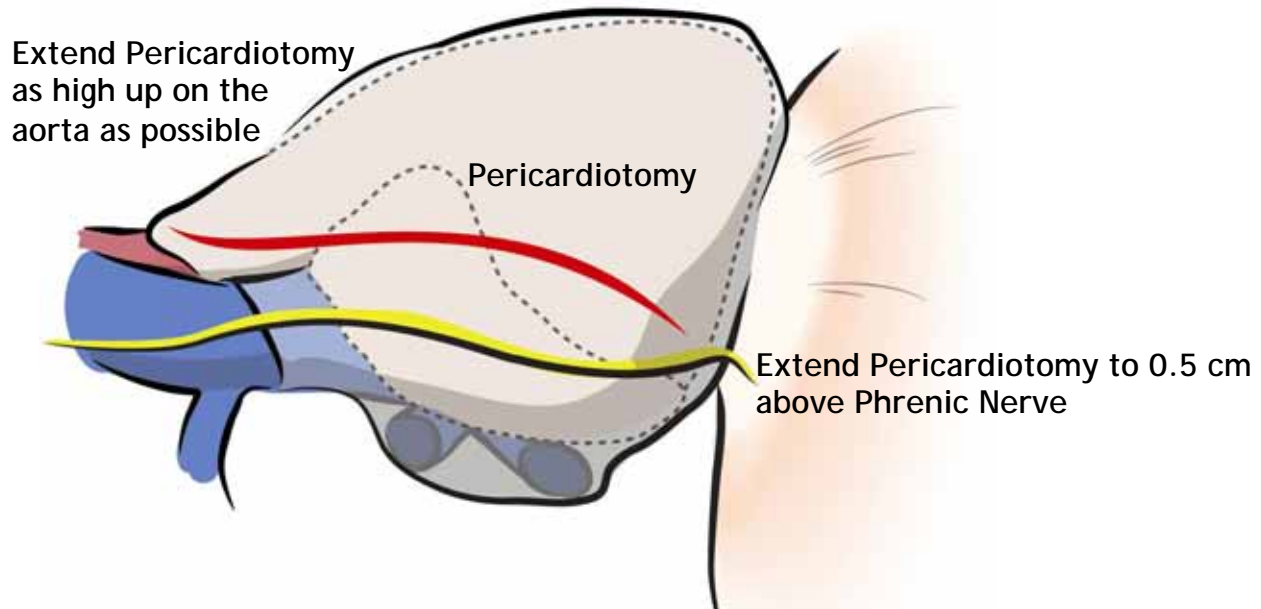

Figure 21: Layout of the Pericardiotomy
- The pericardium is opened anteriorly and the opening extended inferiorly down to the phrenic at the IVC, then superiorly up over the ascending aorta in order to expose as much aorta as possible [Figure 21].